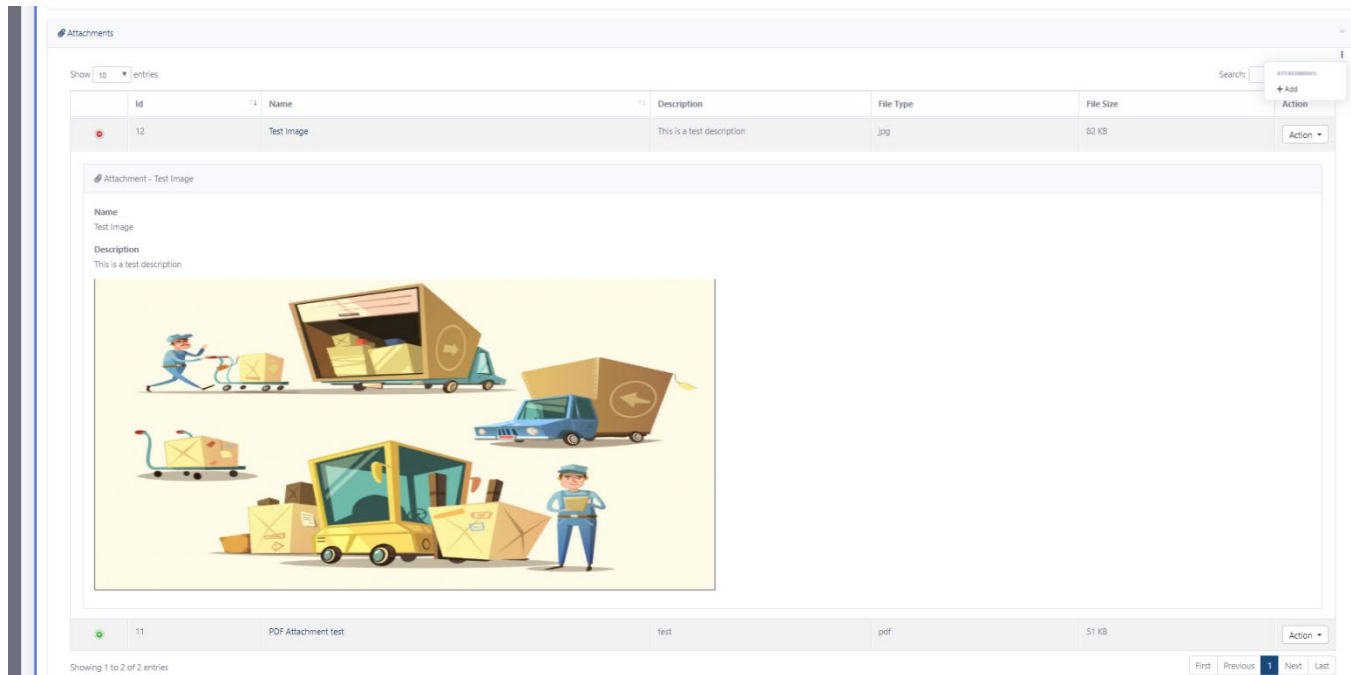

Figure 8C; Attachments
- All attachments can be perceived after upload and must have a description and name. These do not need to be unique. Select the Green + button to preview (see **Figure 8C**).